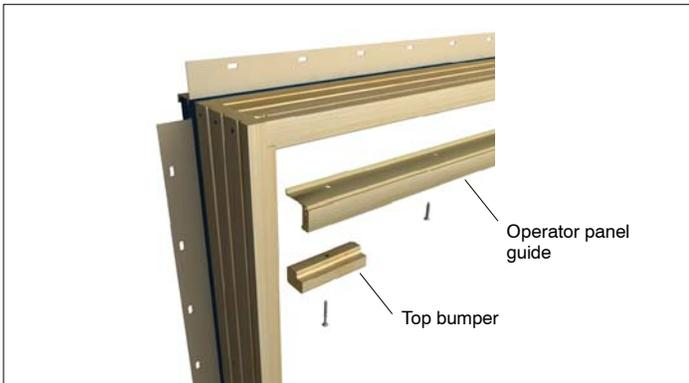

Figure 5
2. Remove #8x1" screws holding operator panel guide. See figure 5.
8. Install top bumpers with #8x1 1/2" pan head screws. (Package "F" if installing a KD door). See figure 5.